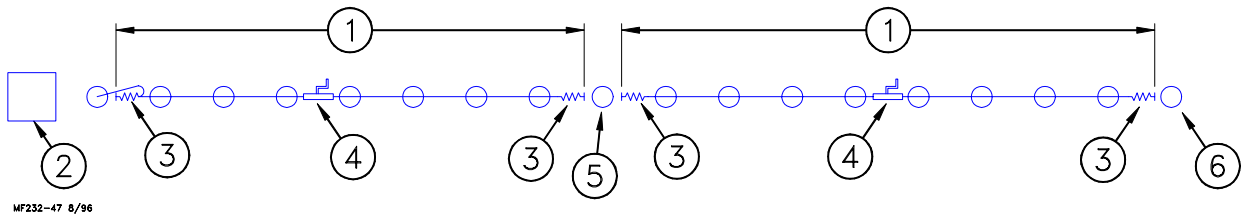
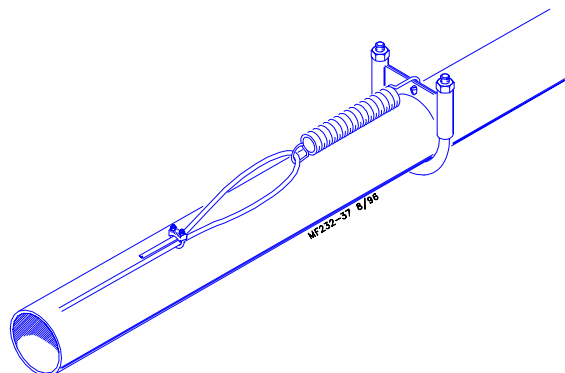

Figure 39.
Figure 41.
The Feed Level Tubes are adjusted using a winch and cable. The maximum line length for each winch is 200' (61 m). The winch should be located in the middle of the line of feeders that it is to adjust. See Figure 39.
The winch should be placed in the center of the line of Feed Level Tubes it will adjust, as shown in Figure 39. THE LINE LENGTH MUST NOT EXCEED 200 FEET (61 M).
2. Drill a 1/4" (6 mm) hole in the flat metal portion of a tube clamp to anchor spring on each side of the winch. See Figure 41. Attach the Tube Clamp/Spring assemblies to the feeder line tube at a maximum distance of 100 feet (30 m) from the winch. See Figure 39.